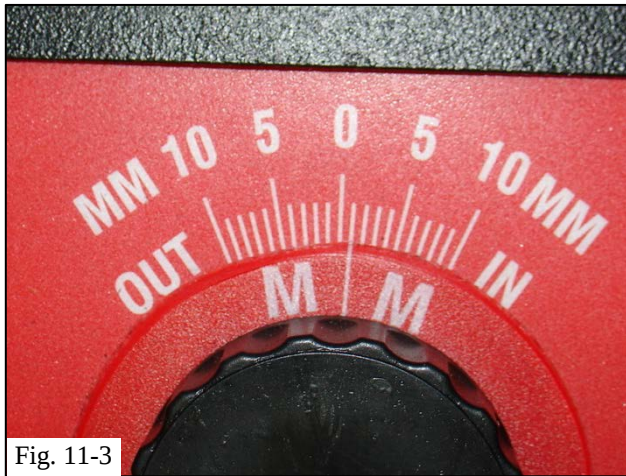

Fig. 11-3
- (e) Set the front laser guns' toe knobs to 1mm IN (Fig. 11-3).